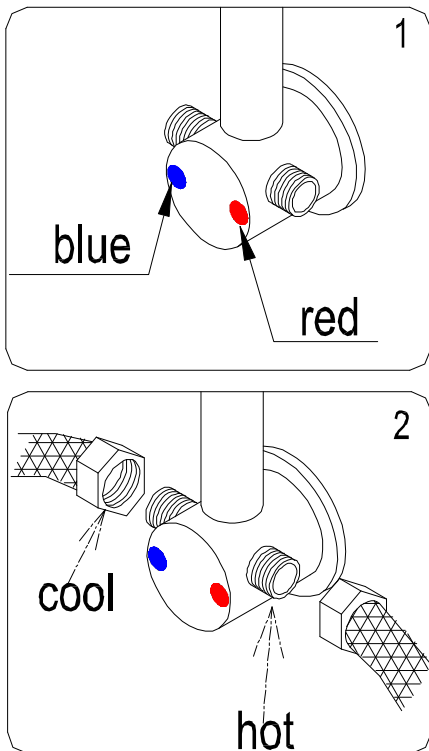

Fig 23
20. Connect hot water supply hose to the water inlet marked with red and cold water to the blue mark water inlet. See Fig 23 for details.